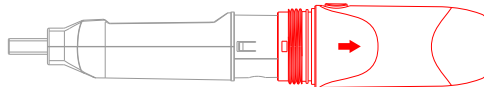

Fig.22
Step 3. Remove the battery compartment. See Fig. 22.